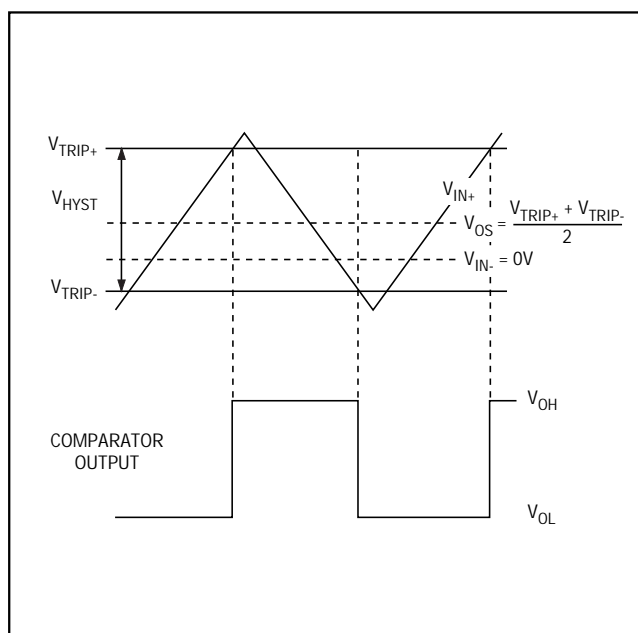

Figure 1. Input and Output Waveform, Noninverting Input Varied
- Note 2:** The input-referred trip points are the extremities of the differential input voltage required to make the comparator output change state. The difference between the upper and lower trip points is equal to the width of the input-referred hysteresis zone. See Figure 1.
- Note 3:** V_{OS} is defined as the center of the input-referred hysteresis zone. See Figure 1.
The hysteresis in a comparator creates two trip points: one for the rising input voltage and one for the falling input voltage (Figure 1). The difference between the trip points is the hysteresis. When the comparator's input voltages are equal, the hysteresis effectively causes one comparator input voltage to move quickly past the other, thus taking the input out of the region where oscillation occurs. Standard comparators require hysteresis to be added with external resistors. The MAX941/MAX942/MAX944's fixed internal hysteresis
Figure 1 illustrates the case where IN_- is fixed and IN_+ is varied. If the inputs were reversed, the figure would look the same, except the output would be inverted.